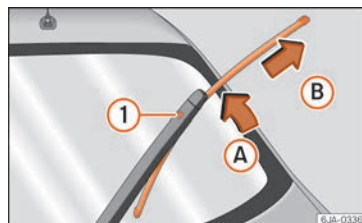

Fig. 71 Rear window wiper blade.
- Lift the rear window wiper arm away from the glass moving the blade slightly in the direction of the arm – arrow (A) » » **Fig. 71**.
- Unlock the catch ① with the other hand and remove the blade in the direction of arrow (B).